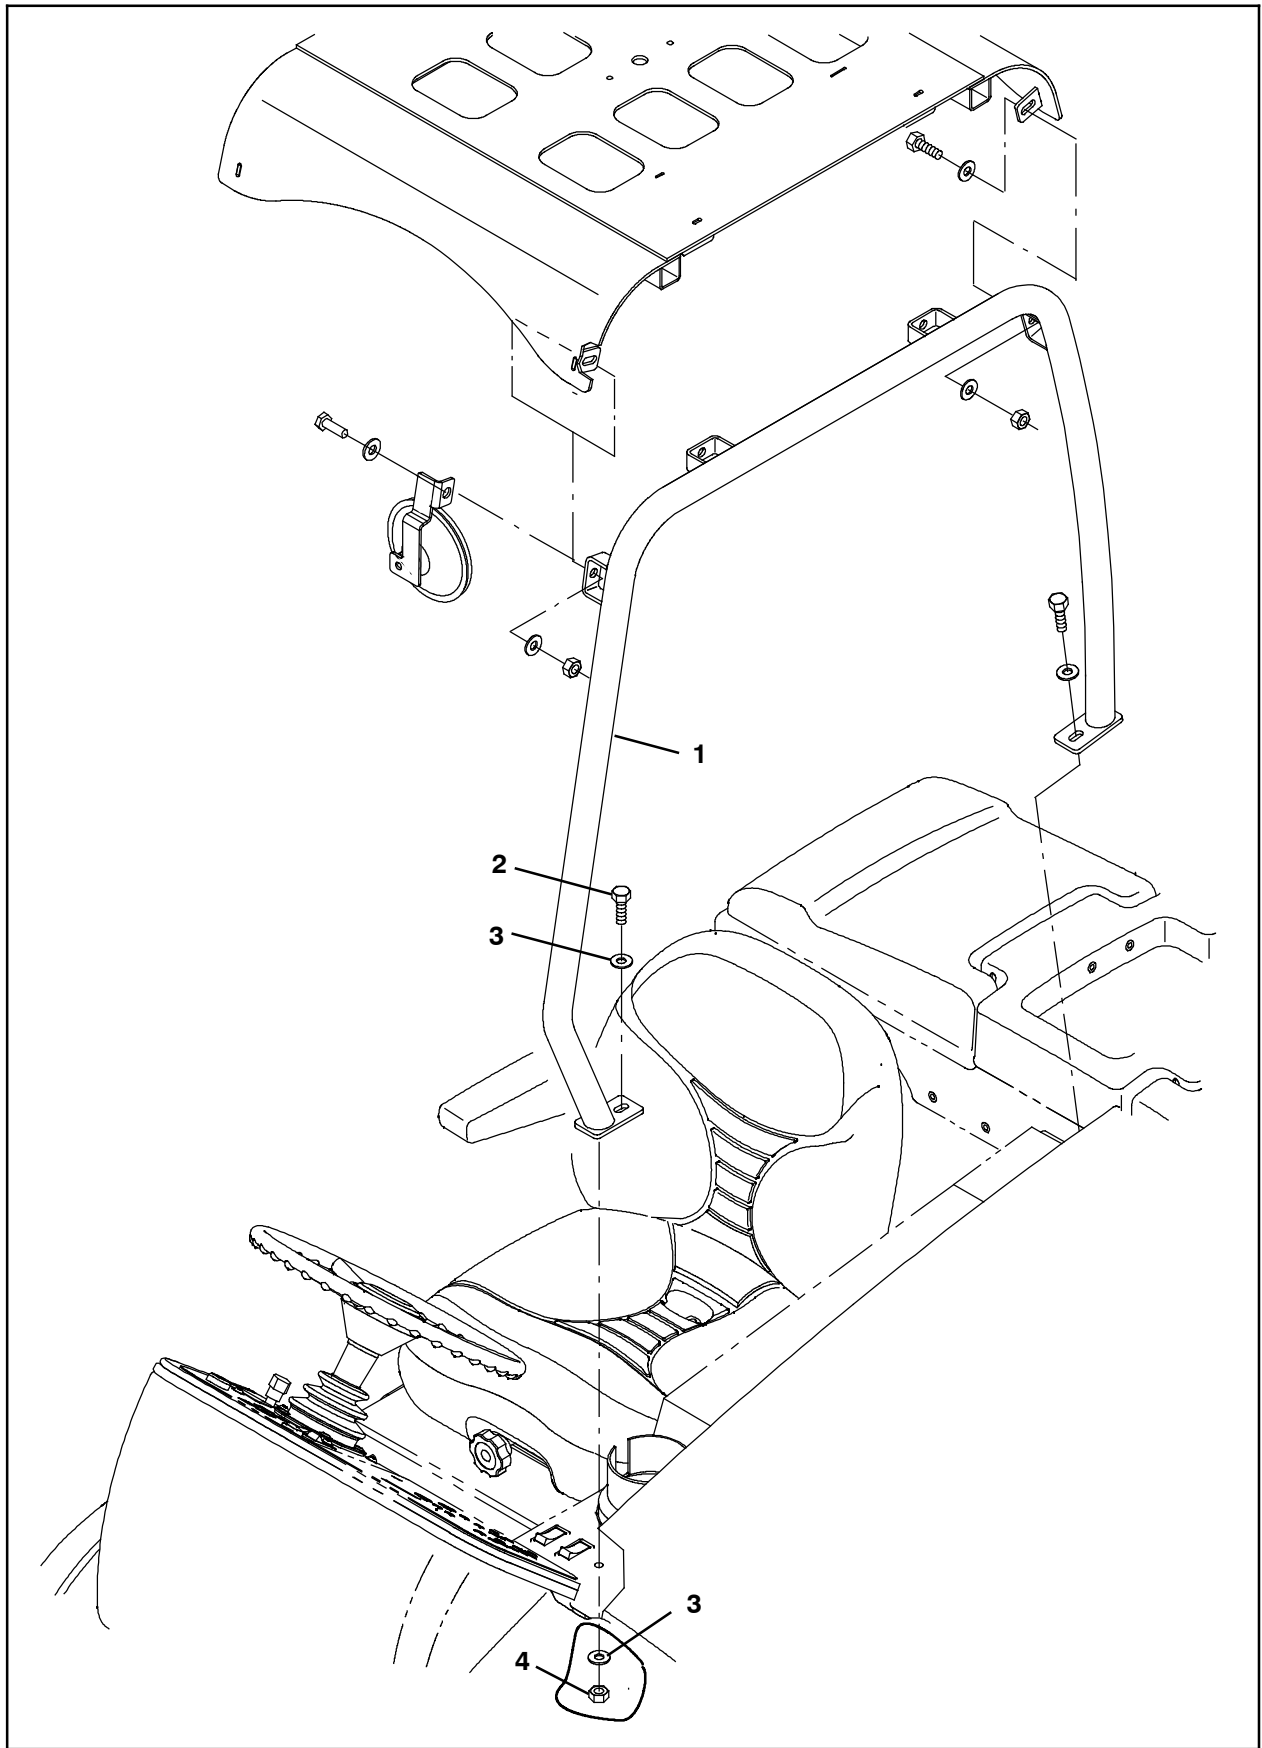

FIG. 3
3. Use saved hardware and the M10 hex screw (2), two flat washers (3), and the M10 hex nut (4) to install the left overhead guard tube (1) onto the machine. (Fig. 3)